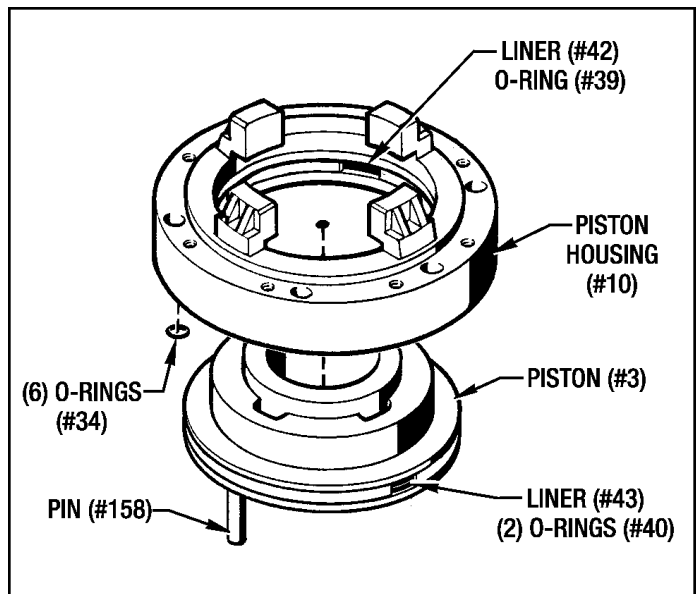

Figure 9.1 - Piston & Piston Housing Reassembly (MB-210, 210L)
1. Lubricate the (2) O-Rings (#40) and the Teflon Liner (#43) with **White Grease** and install them onto the Piston (#3). (See *Figure 9.1 below.*)